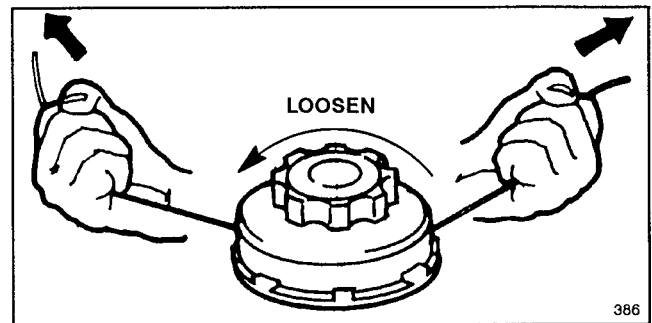

Figure 10
2. Slowly pull out desired amount of line (Fig. 10).